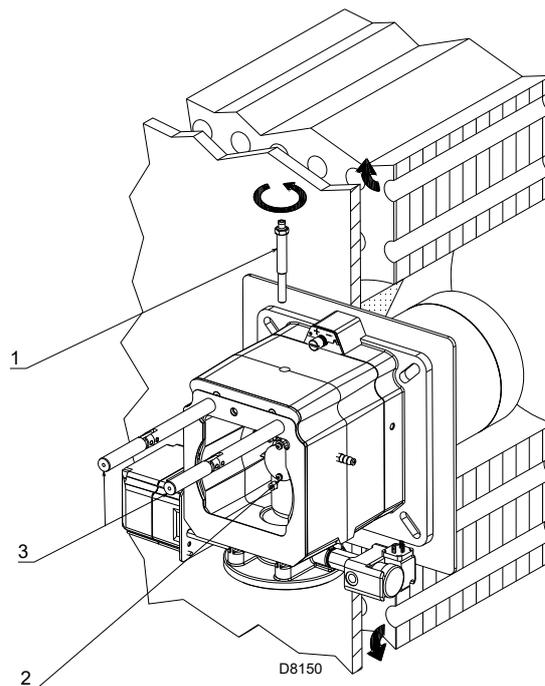

Fig. 15
- remove the screw 1)(Fig. 15)
- extract the inner part 2)(Fig. 15) of the head, and adjust them.